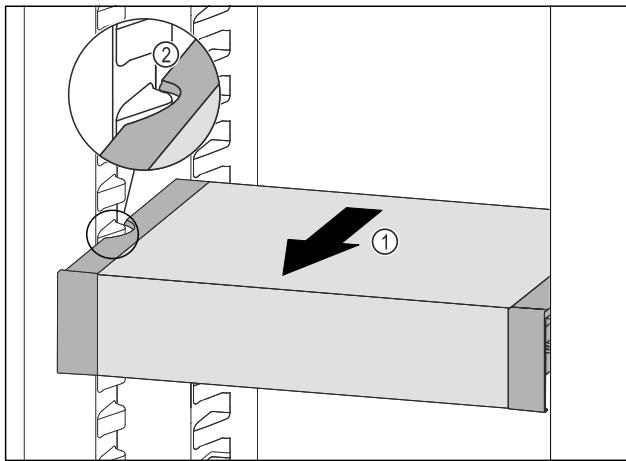

Fig. 135
- ▶ Pull VarioSafe forwards Fig. 135 (1) until the recesses in the side of the VarioSafe are at the level of the support rib in the fridge section. Fig. 135 (2)